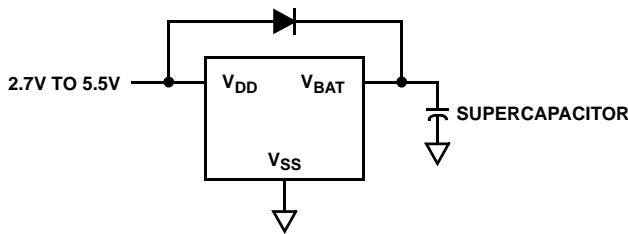

FIGURE 28. SUPERCAPACITOR CHARGING CIRCUIT
- Mode C** - In this mode, the selection bits indicate a low V_{DD} switchover combined with no communications in battery backup. Operation is actually identical to Mode A with I²C communications down to $V_{DD} = V_{RESET}$, then no communications (see Figure 28).